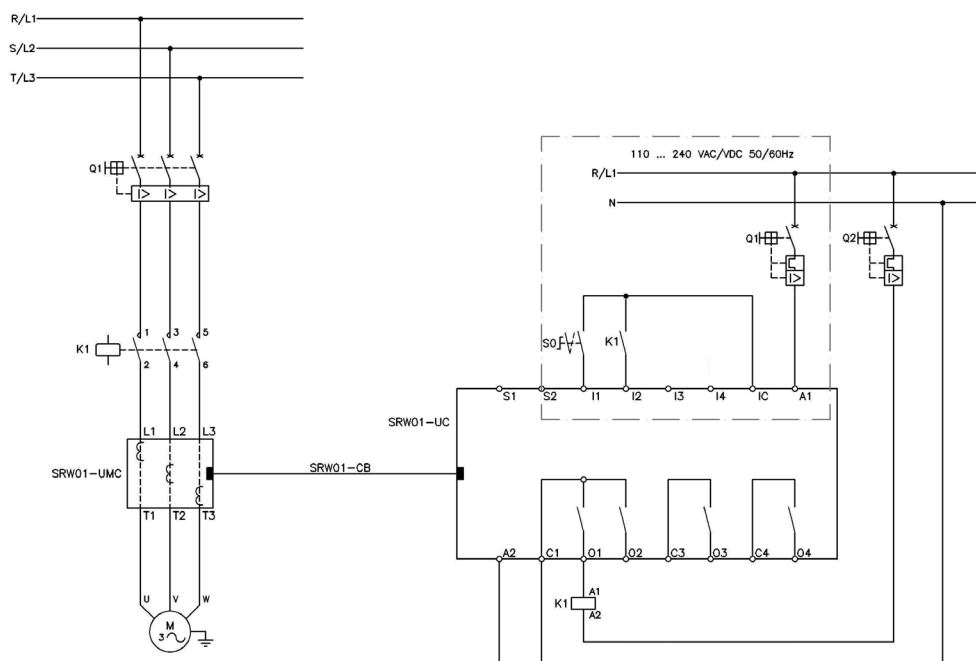

Figure 5.2 - Connection scheme for the Transparent Operation Mode using digital inputs at 24 Vdc
The scheme on figure 5.2 shows an example of the use of the Control Unit (UC) on the Transparent operation mode with drive through the digital inputs at 24 Vdc, where on the Ladder programming digital input I1 turns the motor ON/OFF, digital input I2 is used as a Check Back signal and digital output O1 drives the motor.